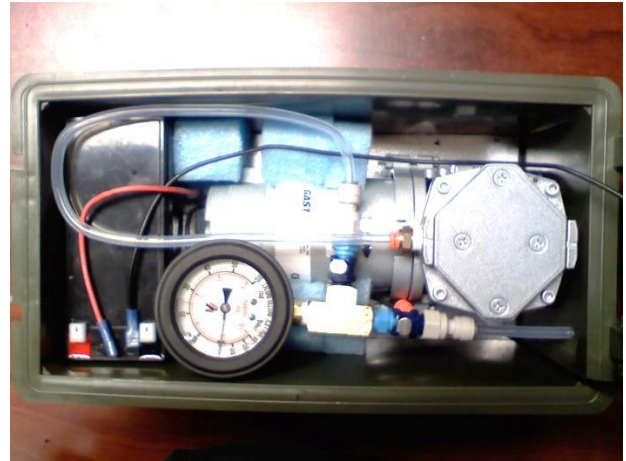

Figure 9: Possible configuration for the DC vacuum pump.
- An example of a pump connected to a rechargeable battery is shown in Figure 9.